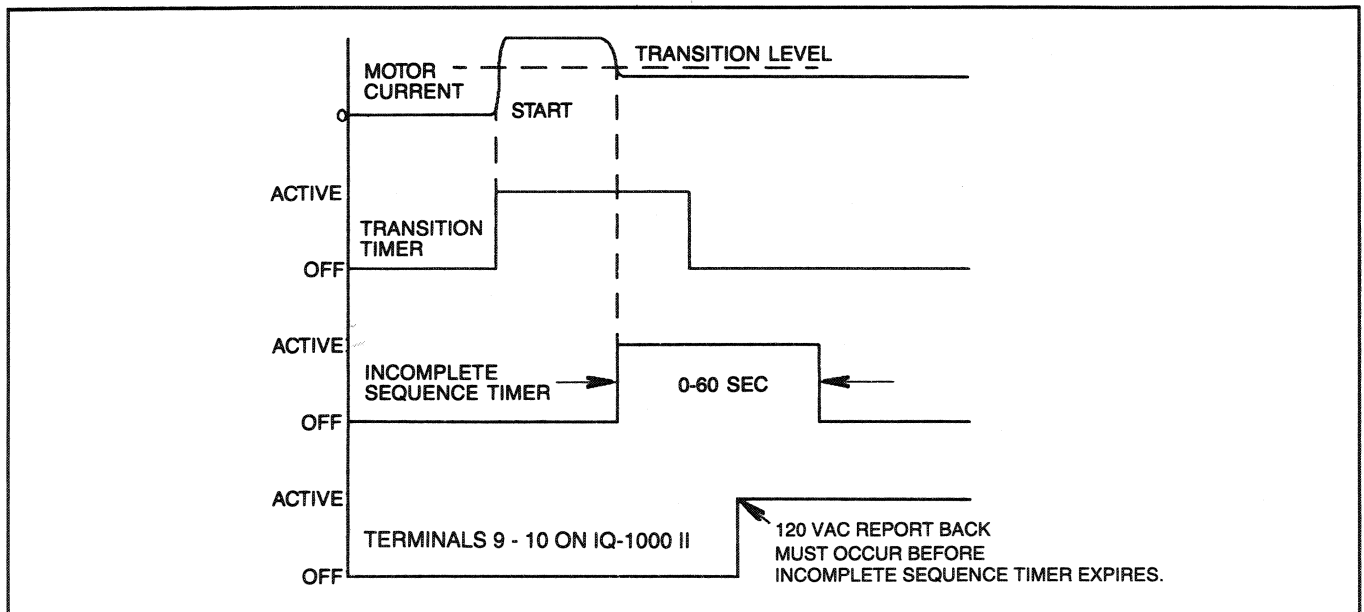
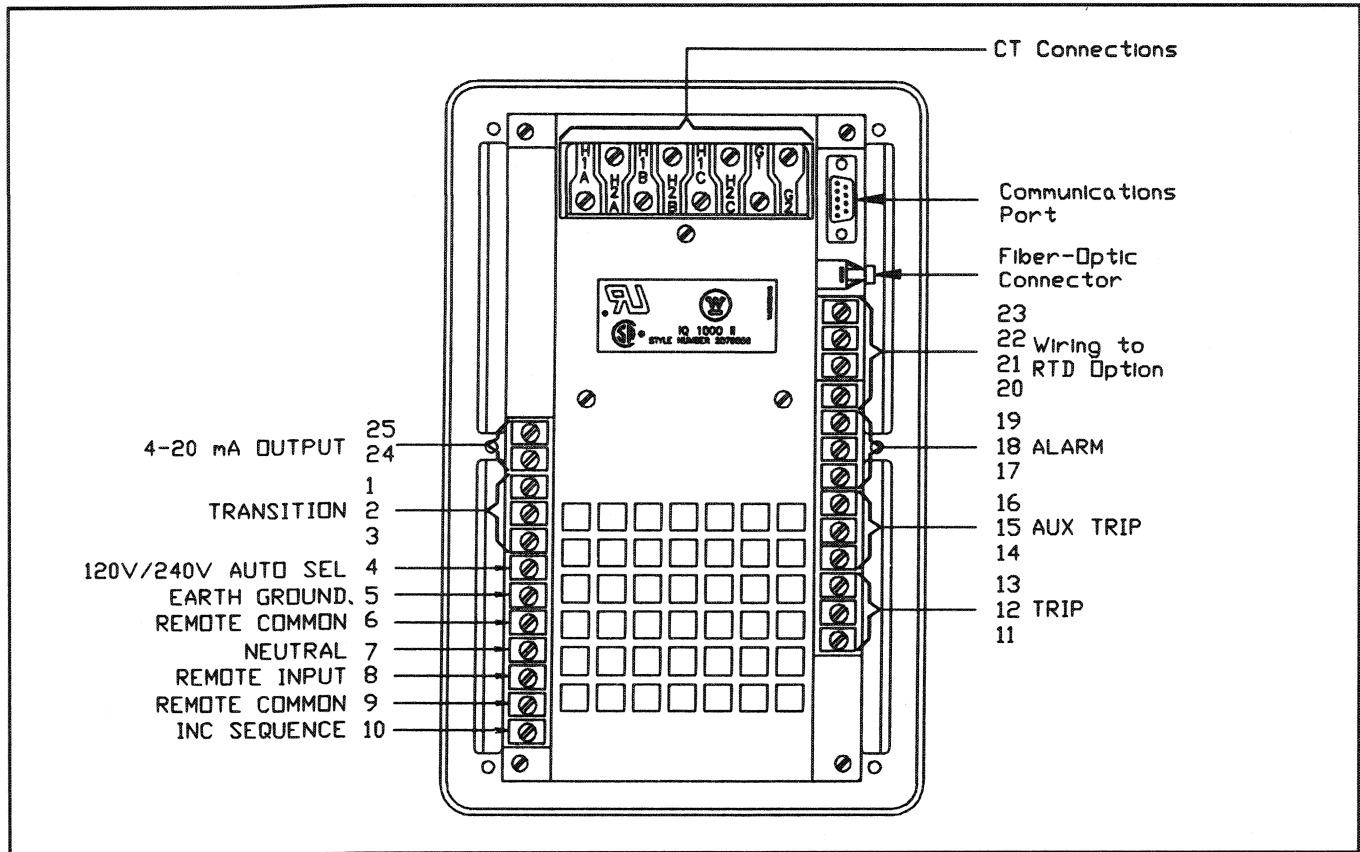

Figure 8.2 — Incomplete Sequence Timing
Figure 8.3 — IQ-1000 II Terminals
8.16 Setpoint Item 40, Incomplete Sequence Time — The incomplete sequence time (in seconds) operates in conjunction with the incomplete sequence terminals on the rear of the IQ-1000 II (terminals 9 and 10, see Figure 8.3). As the IQ-1000 II enters the RUN mode, the incomplete sequence timer starts its count. If the timer runs out (i.e., the time programmed at menu item 40 expires) before 120 VAC has been received across terminals 9 and 10, then the IQ-1000 II will generate a trip condition and will display the message "INC SEQ." If 120 VAC is received at terminals 9 and 10 before the timer runs out, the IQ-1000 II will acknowledge the signal, and the 120 VAC is no longer monitored. The timing cycle of events is shown in Figure 8.2.
8.23 Setpoint Item 47, 4-20 mA Output Signal — The IQ-1000 II provides a 4-20 mA analog output signal at terminals 23 and 24 on the rear of the IQ-1000 II (see Figure 8.3). This signal can be input into an ammeter or programmable controller for external manipulation of parameters monitored by the IQ-1000 II.
The IQ-1000 II has one programmable form-C relay, the Auxiliary Trip relay. This relay can be programmed to activate only on certain trip conditions. This relay is labeled as terminals 14, 15 and 16 on the rear of the IQ-1000 II (see Figure 8.3). The following trip states can be programmed for the Auxiliary Trip relay: